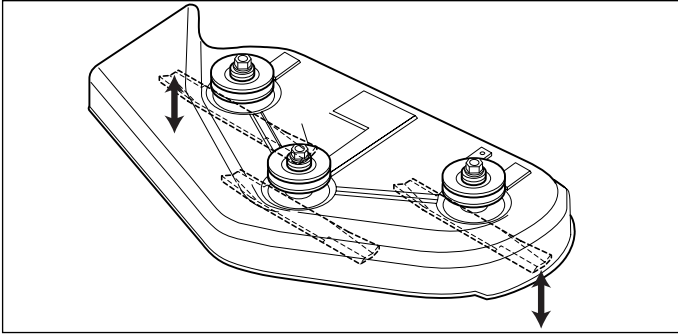

Figure 15. Orient Blades Side-to-Side
3. Place the mower cutting height lever in the fourth adjustment notch from the bottom. Arrange the outside mower blades so that they are pointing from side-to-side (Figure 15).
4. Measure the distance between the outside tips of each blade and the ground (Figures 15 & 16). The measurement should be 3" (7,6 cm), +/-1/8" (3mm). If there is more than 1/8" (3mm) difference between the measurements on each side, proceed to step 5. If the difference is 1/8" (3mm) or less, proceed to step 6.